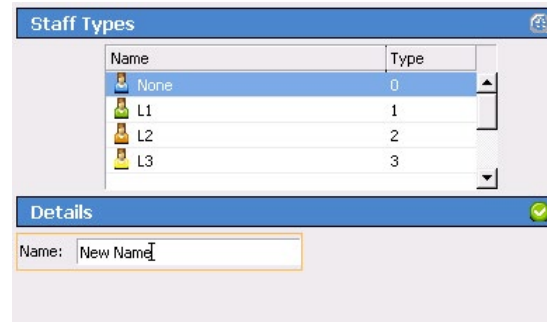

Figure 28: Add Custom Staff Types
2. To edit an existing staff type, select an entry from the **Staff Types** list (shown in Figure 28) and click **Edit** in the **Details** pane below. Type a new name for the selected staff type, and click **Apply**.